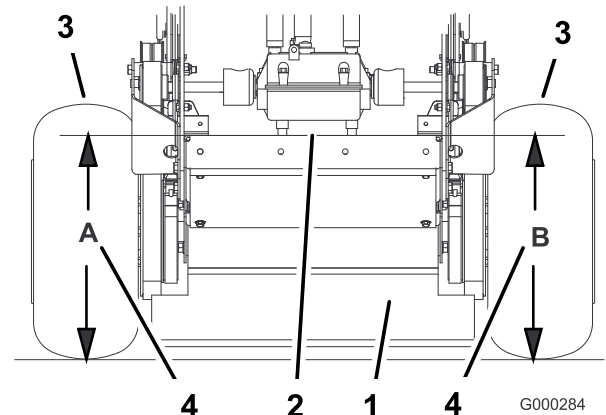

Figure 55
4. Measure engine deck height at location **A** (Figure 55).
5. Measure engine deck height at location **B** (Figure 55).